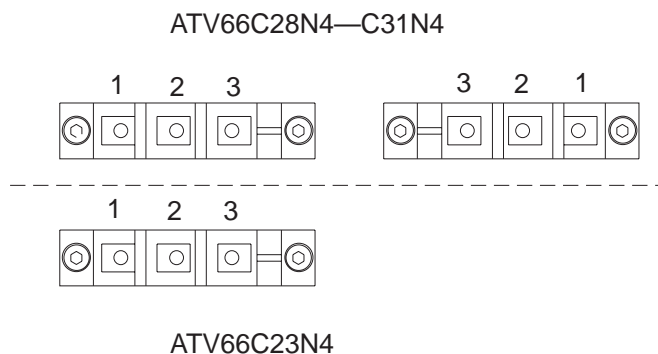

Figure 4.3.34: DB Diode Module Orientation
2. Place the new DB diode module on the heatsink following the orientation illustrated in Figure 4.3.34 and secure it with two hex head screws. Initially tighten the two mounting screws to 6.0 to 9.0 lb-in (0.7–1.0 N•m) with a final torque of 36 lb-in (4.0 N•m).
4. Install the DB diode connector over terminals 2 and 3 of the diode module(s) (see Figure 4.3.34). On drive controller model ATV66C23N4, the right end of the DB diode connector rests on the DB bus support. The center threaded insert in the DB diode connector must be facing toward the heatsink. See Figure 4.3.30 on page 4.3.44 and Figure 4.3.31 on page 4.3.45 for orientation. Install one (or two) hex head screw(s) into terminal 2 of the diode module(s). On drive controller model ATV66C23N4, install one hex head screw into the DB bus support. Tighten the screws to an initial torque of 6.0 to 9.0 lb-in (0.7–1.0 N•m) and then to a final torque of 36.0 lb-in (4.0 N•m).
6. Install the DB snubber board riser bar(s) over terminal 3 of the DB diode block(s) with the upper angle oriented toward terminal 1 of the DB diode block(s) and secure with one (or two) hex head screw(s) (see Figure 4.3.34 on page 4.3.60). On drive controller models ATV66C28N4—C31N4, place the riser bar with the mark on the right-most DB diode module. Make sure the riser bars are aligned with the DB diode connector. Tighten the screws to an initial torque of 6.0 to 9.0 lb-in (0.7–1.0 N•m) and then to a final torque of 36.0 lb-in (4.0 N•m).